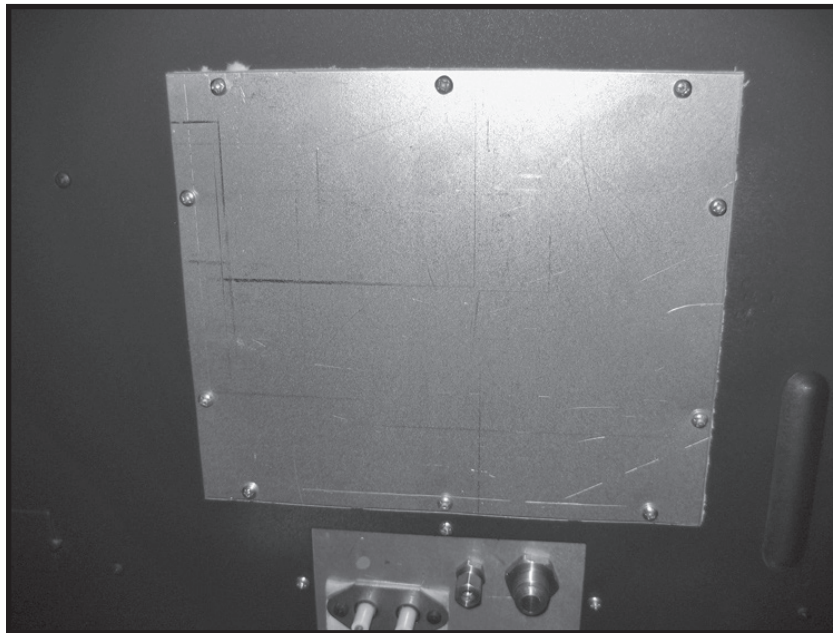

Figure 28: Access panel.
3. Remove all 10 screws from the Valve control center panel (Figure 28).